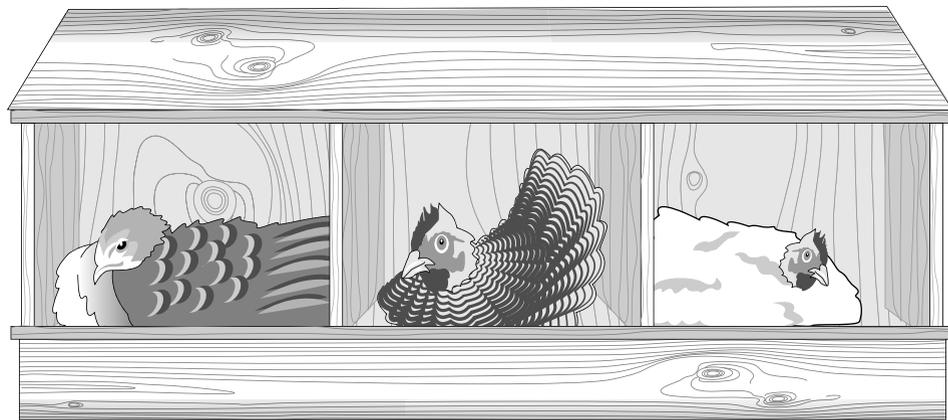

Figure 2-2: Nest boxes are critical if you're encouraging egg production from your flock.
- ✔ **Nest boxes:** If you're keeping chickens for their eggs, nest boxes are a necessity (even though many owners of particularly-finicky chickens will tell you that their nest boxes go unused more often than not). A *nest box* (see Figure 2-2) is exactly that: a safe, comfortable, and secluded spot where your hens can lay their eggs.